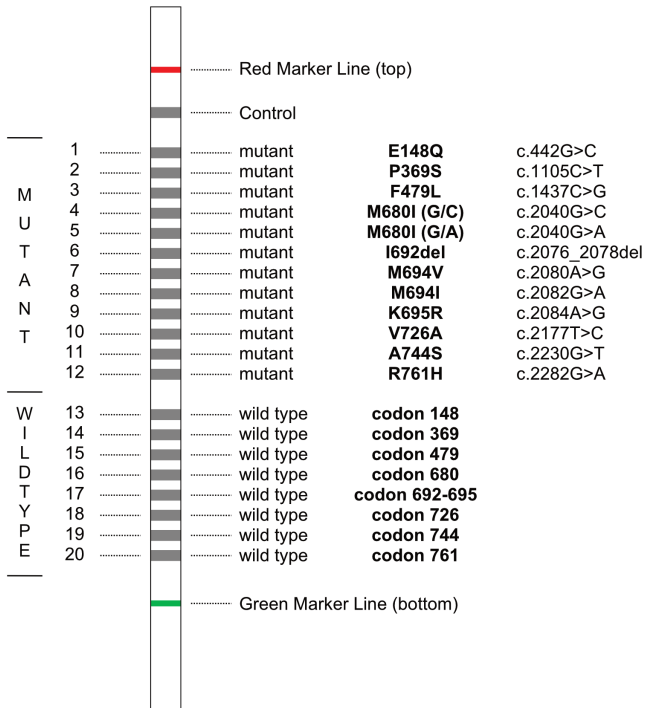

Fig. 1: Teststrip Design
The FMF StripAssay® is based on polymerase chain reaction (PCR) and reverse-hybridization. The procedure includes three steps: (1) DNA isolation, (2) PCR amplification using biotinylated primers, (3) hybridization of amplification products to a Teststrip containing allele-specific oligonucleotide probes immobilized as an array of parallel lines (Fig. 1). Bound biotinylated sequences are detected using streptavidin-alkaline phosphatase and color substrates.